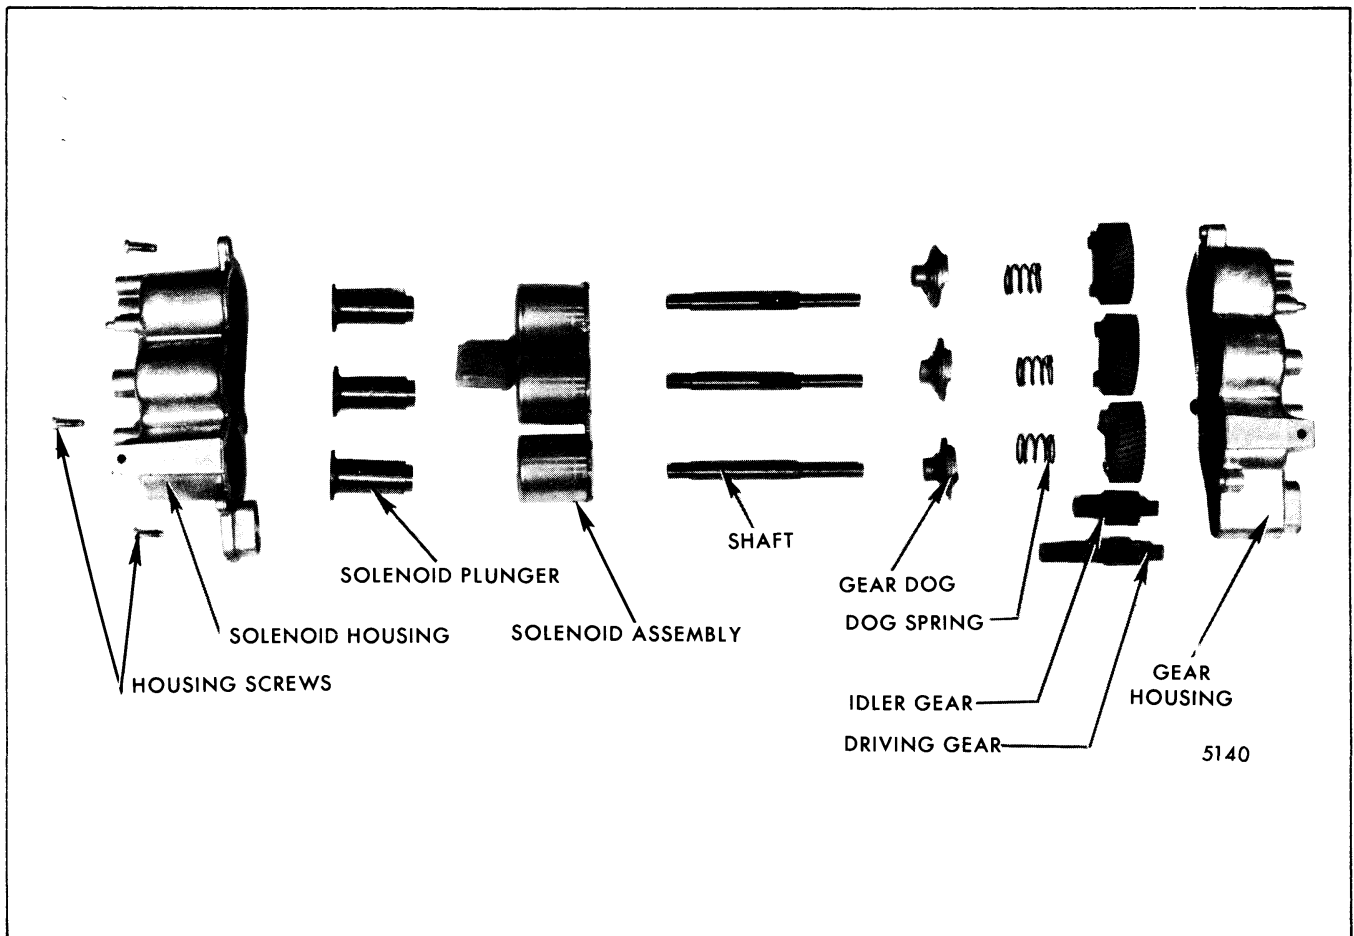

Fig. 9-23-Six-Way Seat Adjuster Transmission - "B and C" Full Width Seat
2. Remove screws securing rear gear housing to the solenoid housing; then, carefully separate housings and remove component parts of transmission assembly (Fig. 9-23).